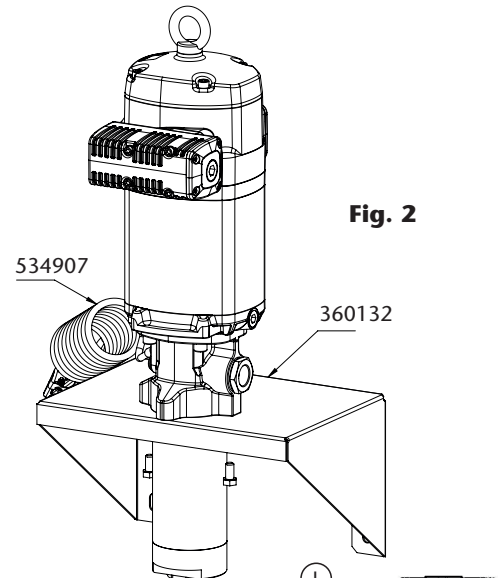

Fig. 2
**This pump can be mounted directly on the wall, using the bracket (360132).** Firmly fix the bracket to the wall. Put the pump on it and fix with included screws (Fig. 2).